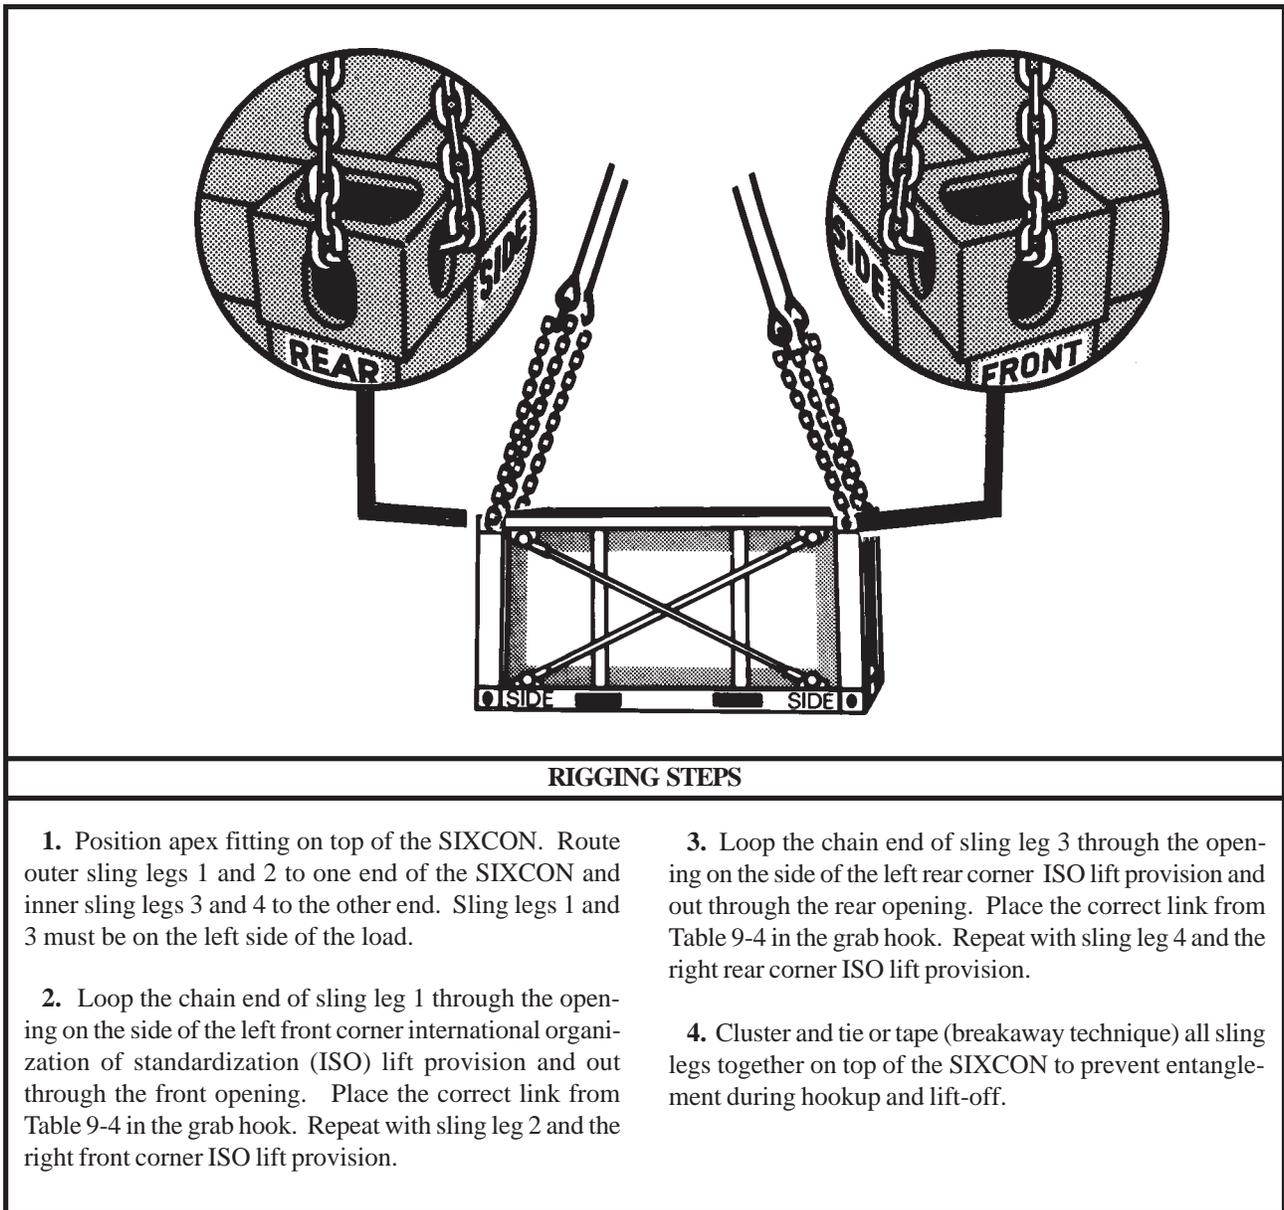

Figure 9-4. Storage Module, Fuel/Water, Six Compartment Container (SIXCON), Individual
(2) **Rigging.** Rig the load according to the steps in Figure 9-4.
(4) **Derigging.** Derigging is the reverse of the preparation and rigging procedures in steps d (1) and d (2).